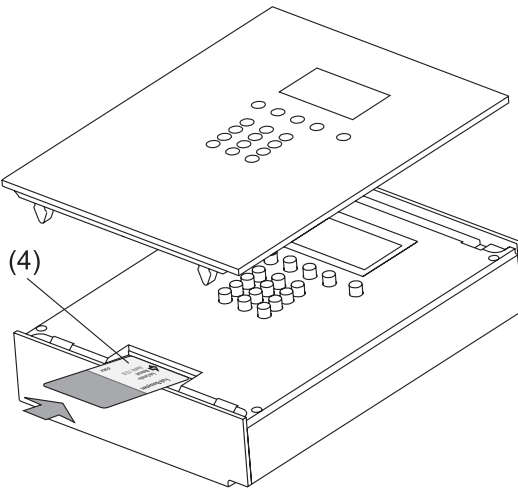

Fig. 6.a: Inserting the radio control unit Mastercard
The radio control unit Mastercard is detected automatically by the radio control unit when the standard screen is displayed. The card is inserted with the micro-chip ahead into the chip-card reader (4) as shown in fig. 6.a.